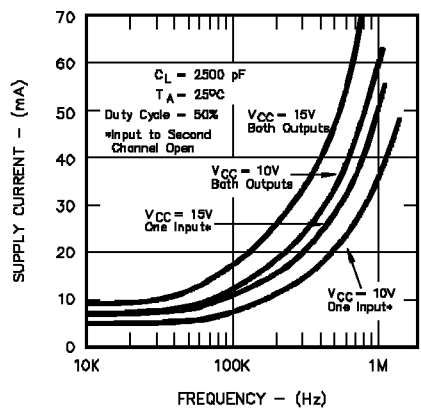

FIGURE 11.
1. From Figure 11, the average driver current consumption under these conditions will be 18mA, and the power dissipation will be 15volts x 18mA, or 270mW.